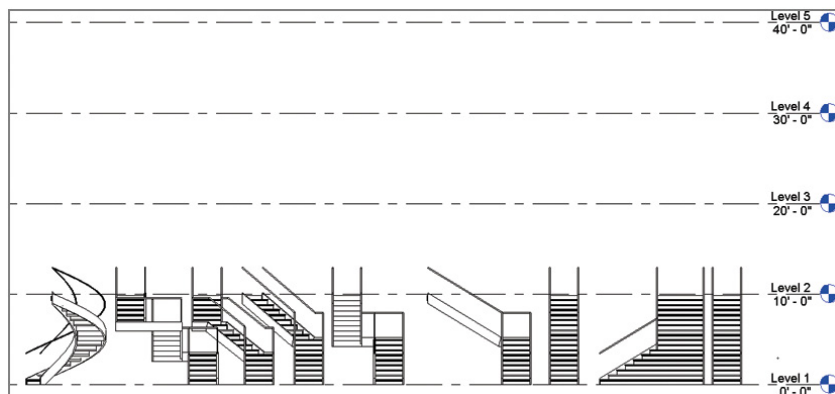

FIGURE 4.16 Adding additional levels to the model
- You need to create some additional levels. As shown in Figure 4.16, open the South elevation, and click the Level tool on the Datum panel of the Architecture tab. Click the elevation and drag the mouse from left to right to place the level, taking care that the heights are equally spaced.
As discussed earlier, you can change the level heights by clicking the blue elevation text. For this example, repeat the levels at 10'-0" (3 m) increments — up to 40'-0" (15 m). Figure 4.16 shows several stair types, including the ones you've created.